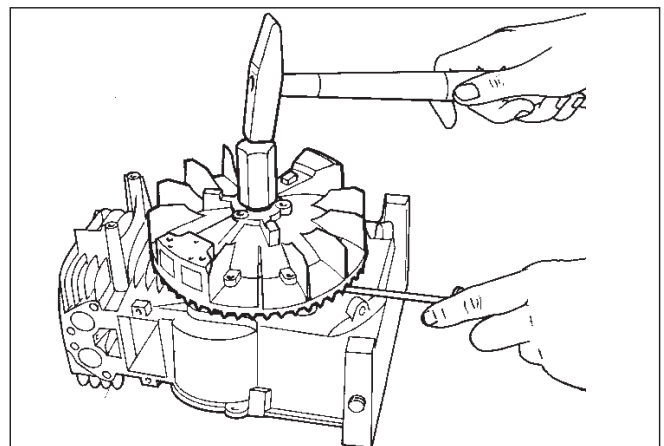

Fig. 4
- Supporting the flywheel underneath, strike the tool squarely with a sharp blow from a hammer to break the flywheel loose. (Fig 4).